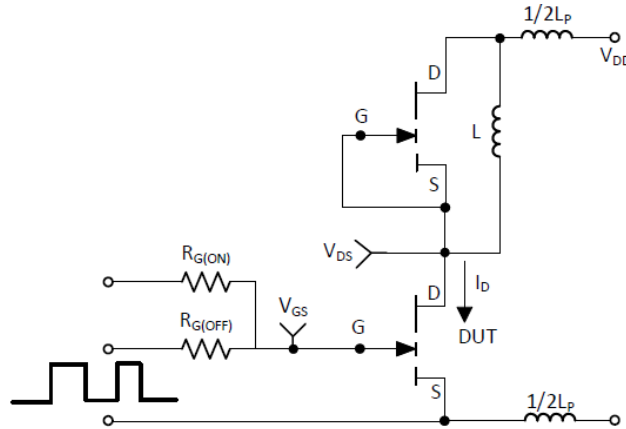

Figure 16: Switching Loss Test Circuit
(6) See Figure 16 for switching loss test circuit.